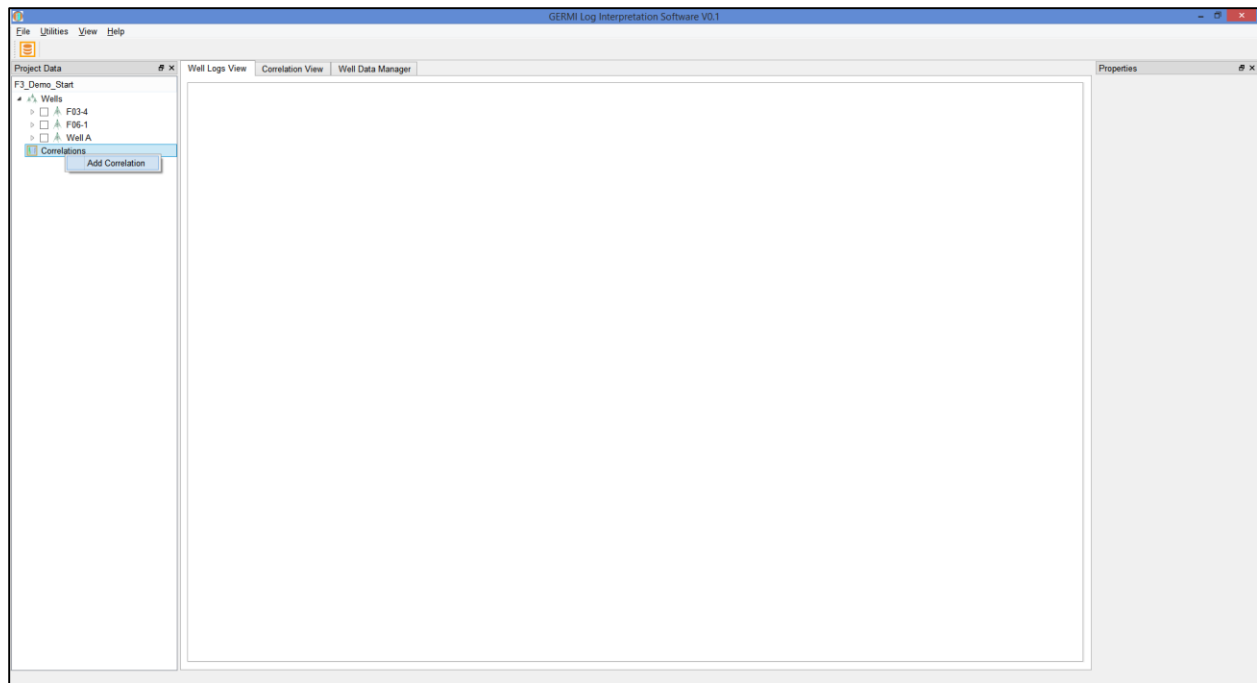

Figure 5.2 “Add Correlation” option to create new Well Correlation.
Step 1: Right click on “Correlations” item in project data tree then click on “Add Correlation” as shown in figure 5.2.